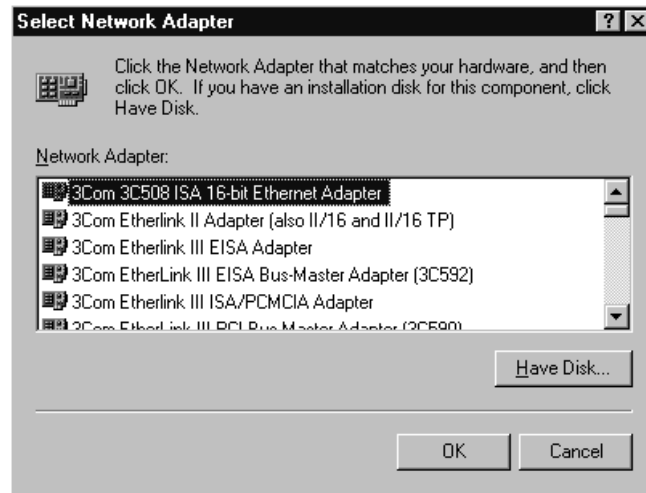

Figure 5-13. Select Network Adapter
3. Click the **A**dd button to add a new adapter. The Select Network Adapter dialog box will display a list of adapters included with Windows NT (Figure 5-13.).